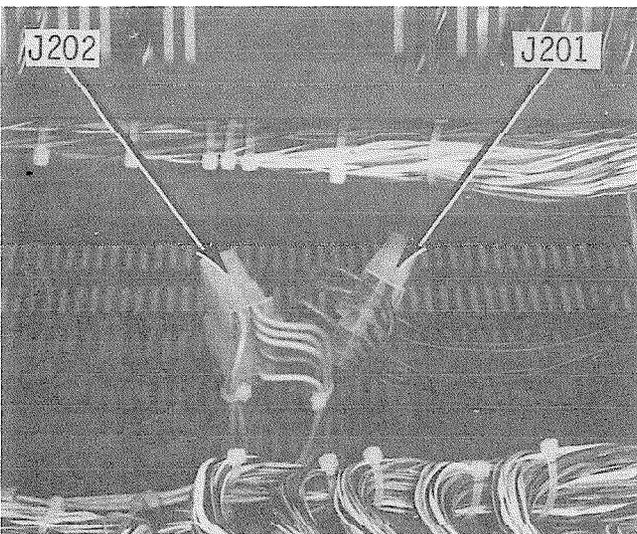

FIGURE 12—DPSA CABLES
- d) Locate the two white plastic connectors intended for the DPSA. Remove the tape securing their cables to the bottom of the DCEC and ensure that they are positioned so as not to be damaged or cause damage when the DPSA slides into place (Figure 12).